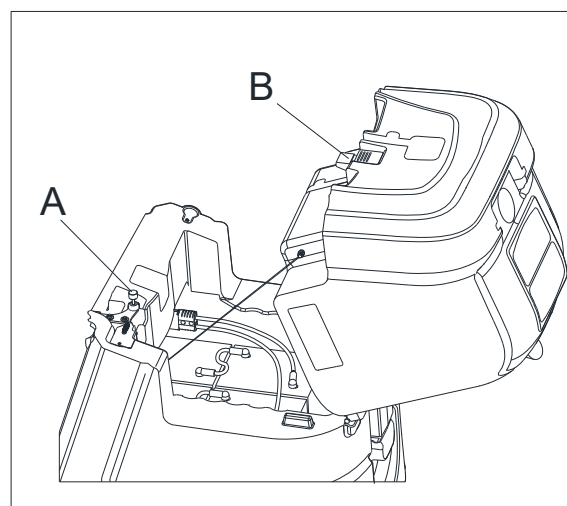

Figure 5
3. Turn over the seat, press the lock catch (as figure5 B), then turn over the recovery tank (15 figure 1) carefully.
Ensure the hand protection device (as Figure 5 A) for turning over recovery tank is in the correct position to security the safety when turning over the recovery tank.